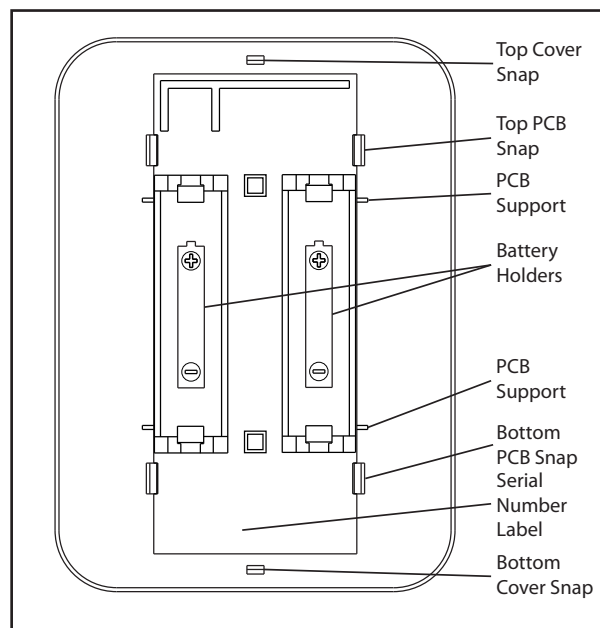

Figure 6: Top Housing PCB and Battery Location
3. Turn the top housing over and remove the old batteries. Dispose of the used batteries properly. See Figure 6 for battery location.
5. Snap the top housing back on to the base with PCB notch toward the top. See Figure 6.